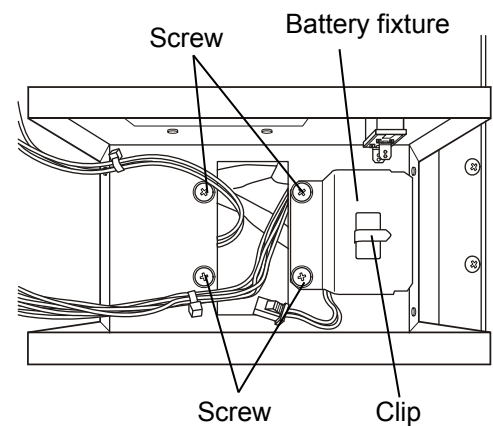
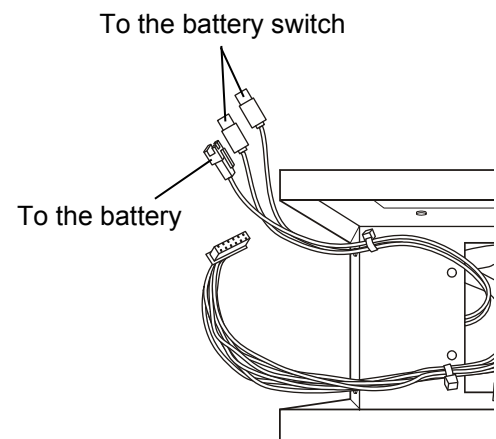

Fig. 4
Fig. 5
5. Put the battery fixture over the battery and fix the battery box and battery fixture by 4 screws. [Fig. 4]
6. Connect the harness to the battery connector and battery switch [Fig. 5] and bind the harnesses by the clip on the battery fixture. [Fig. 4]